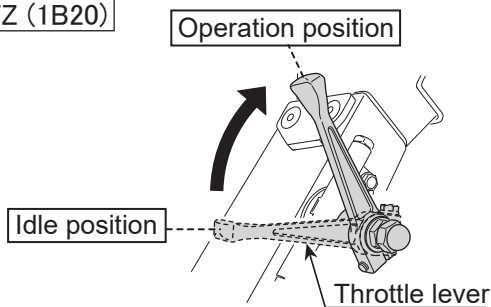

Fig.16
- 1 If the throttle lever is opened suddenly, the machine starts to operate. When you operate the throttle lever slowly, it may cause failure of the clutch causing the bad connection. (Fig.16)